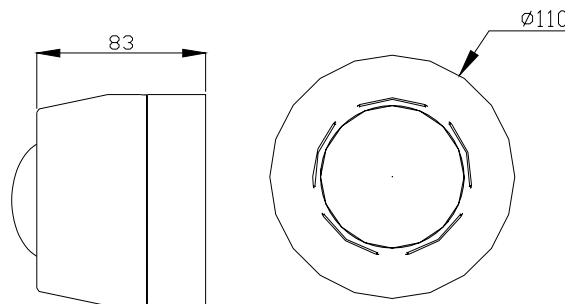

Fig. 1b (thin base)
1. The sounder/sounder strobe can connect with thick base of 40mm or thin base of 25.5mm. Their appearances are shown in Fig. 1a and Fig. 1b.